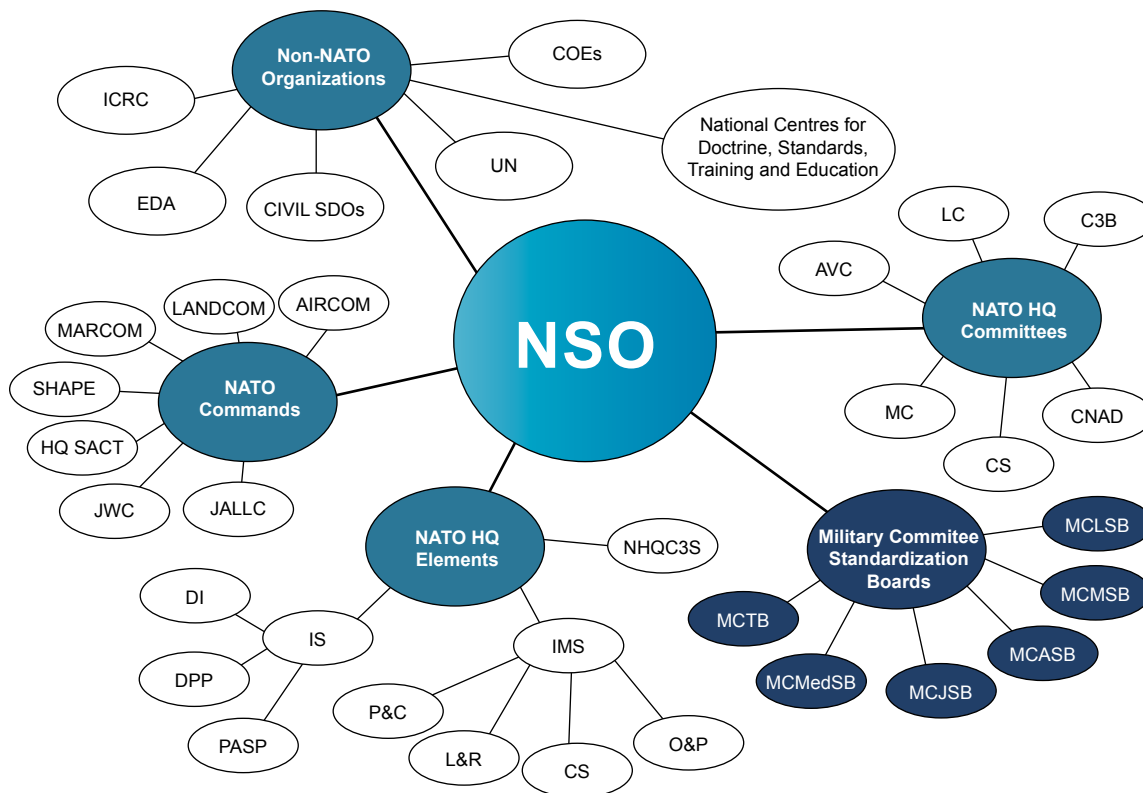

Figure 1. NATO Standardization Office (NSO) Outreach
Figure 1. The colours compare the information where it is the same. Base info has not changed – only position. The Q line is for the computer system and will not be present when a NOTAM is viewed in CFPS. Note that EST in red is "estimate" NOT Eastern Standard Time. Image courtesy of NAV CANADA.
6. CNOP Manual, Pg. 39, Figure 1
Figure 1. The fracture surface of a failed Rosan stud from position 9 displaying flow lines. The yellow arrows indicate the direction of the flow lines. (QETE Project A021812)
As a result, the Military Office for Standardization (MAS) was established in London in January 1951 for the purpose of fostering the standardization of operational and administrative practices and war material. Today, the office name has changed, but the mission remains essentially the same. The NATO Standardization Office (NSO) is an independent NATO Office that reports to the Committee for Standardization (CS) for Standardization Policy and Management and to the Military Committee (MC) for corporate oversight and issues relating to operational standardization (Figure 1).